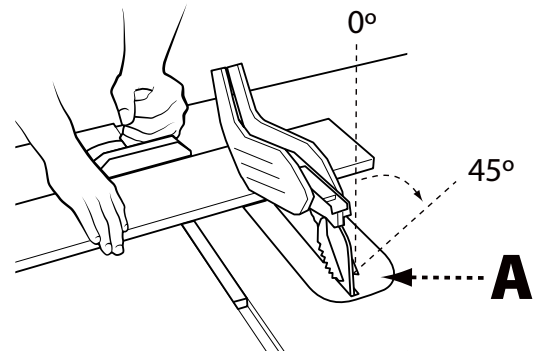

FIGURE 27
Bevel crosscutting is the same as crosscutting except the bevel angle (A) is set to an angle other than 90°. When making a bevel crosscut, place the miter gauge in the right miter slot so that the blade is tilted away from the gauge and hands. See Figure 27.